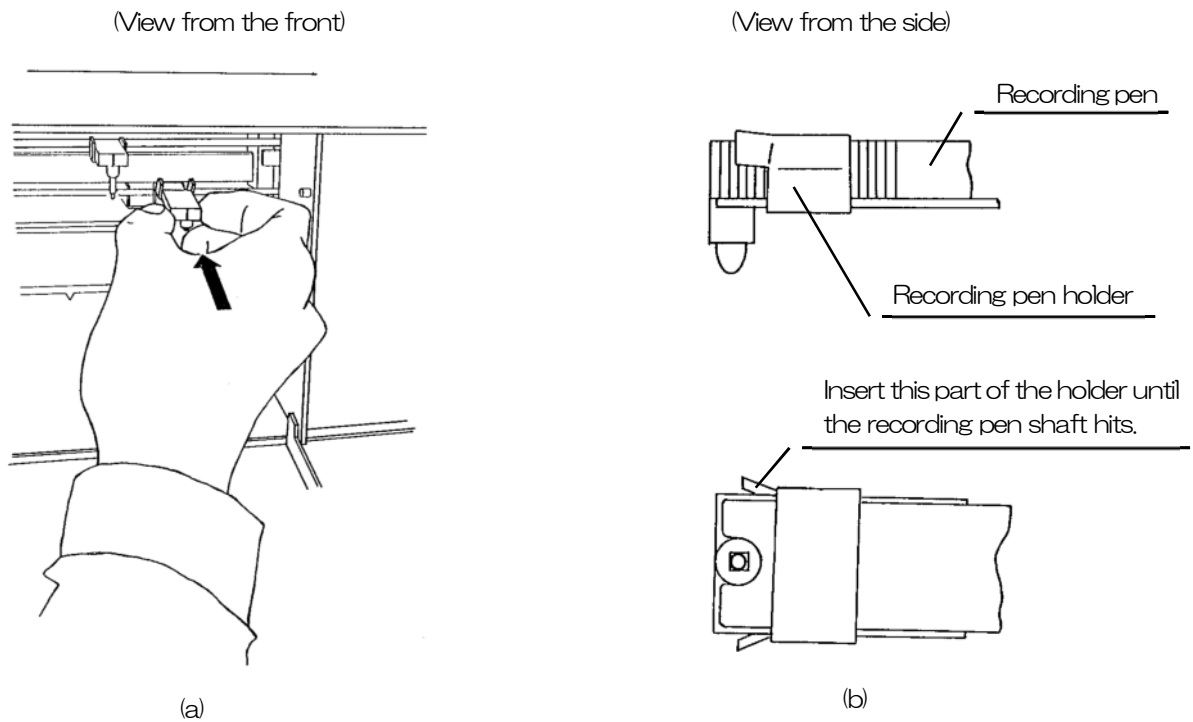

Figure 4.5-1
- (1) Open the front cover.
- (2) Remove the cap of the recording pen and insert the recording pen into the recording pen holder. (See Figure 4.5-1 (a))
Please confirm that it is firmly attached. (See Figure 4.5-1 (b))